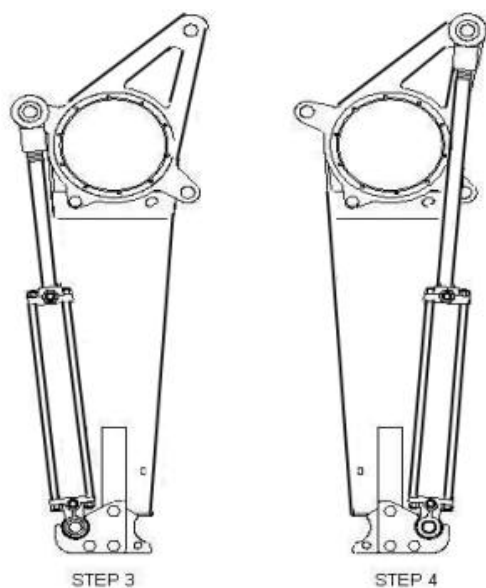

Figure 57 - Repositioning Unloading Auger.
STEP 3 – (See Figure 57.) Extend the cylinder until the 5/8 inch hole is aligned with the other 5/8 inch x 1 inch slot. Lock the cylinder into position with a 5/8 inch bolt and nut or a 5/8 inch clevis pin.
STEP 4 – (See Figure 57.) Disconnect the hydraulic hoses from the cylinder. Remove the cylinder and lower the cylinder mount from the lift lever and vertical cylinder mount arm.
Re-attach the cylinder on the other side as shown. (See Figure 57.) Re-route the hydraulic hoses and connect to the cylinder. Move the saddle to the opposite side of the mixing tank. Lower the unloading auger and rotate the hood so it faces downward.